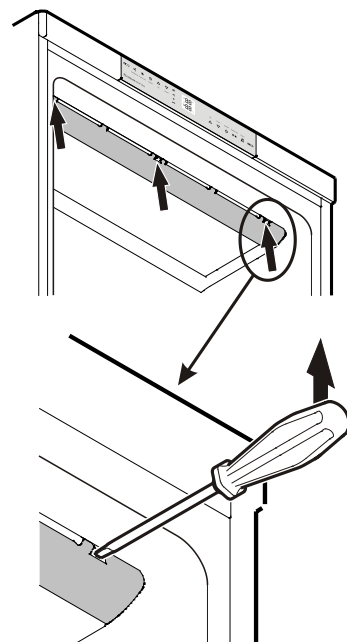

Figure 15
1. Unlatch carefully the cover at left, middle and right using a screwdriver - **Fig. 15**.